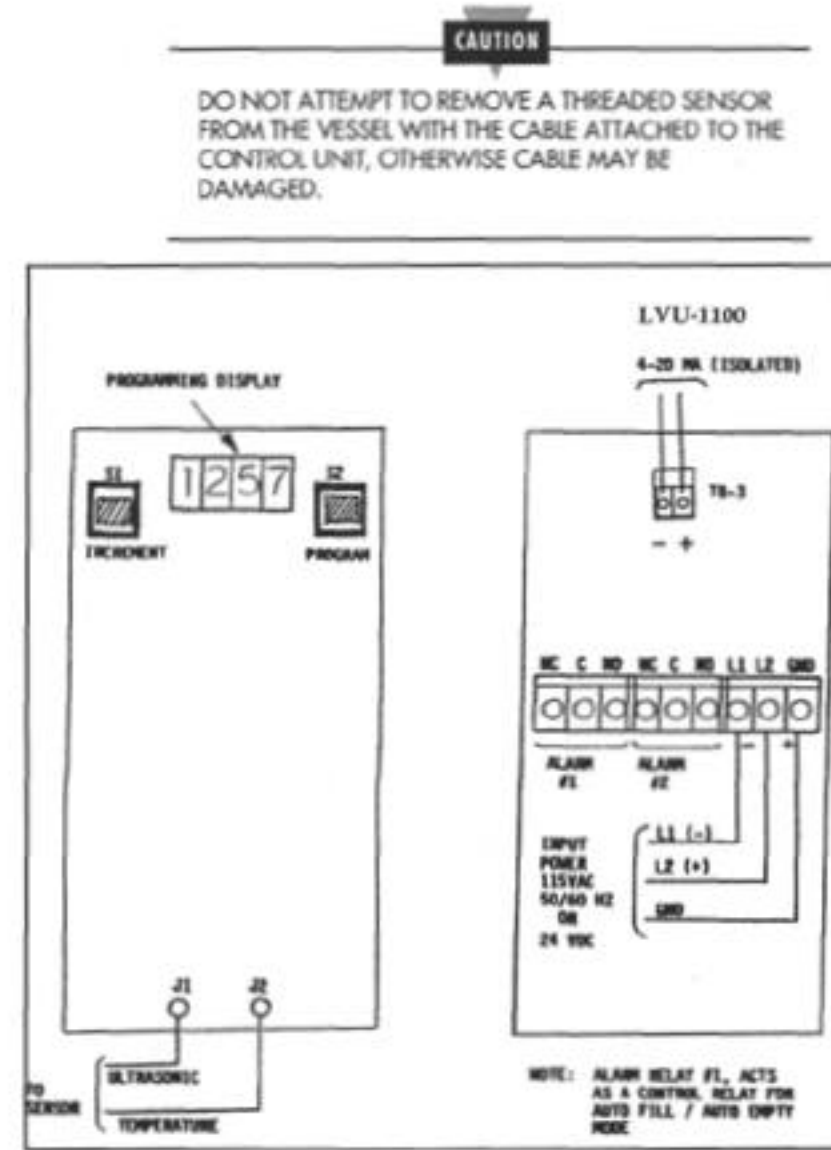

Figure 1 Wiring Diagram LVU-1100/LVU-800
2.3 Wiring Diagram (Fig. 1)3
3. Connect power and control wiring to the control unit as shown in the wiring diagram (see figure 1).
4. Route the sensor cable to the electronic control unit and connect per the Wiring diagram (see fig 1). IF ROUTING THE SENSOR CABLE THROUGH CONDUIT, A DEDICATED CONDUIT SHOULD BE UTILIZED. AVOID ROUTING THE SENSOR CABLE IN CLOSE PROXIMITY TO ANY SOURCE OF ALTERNATING CURRENT OR RFI.